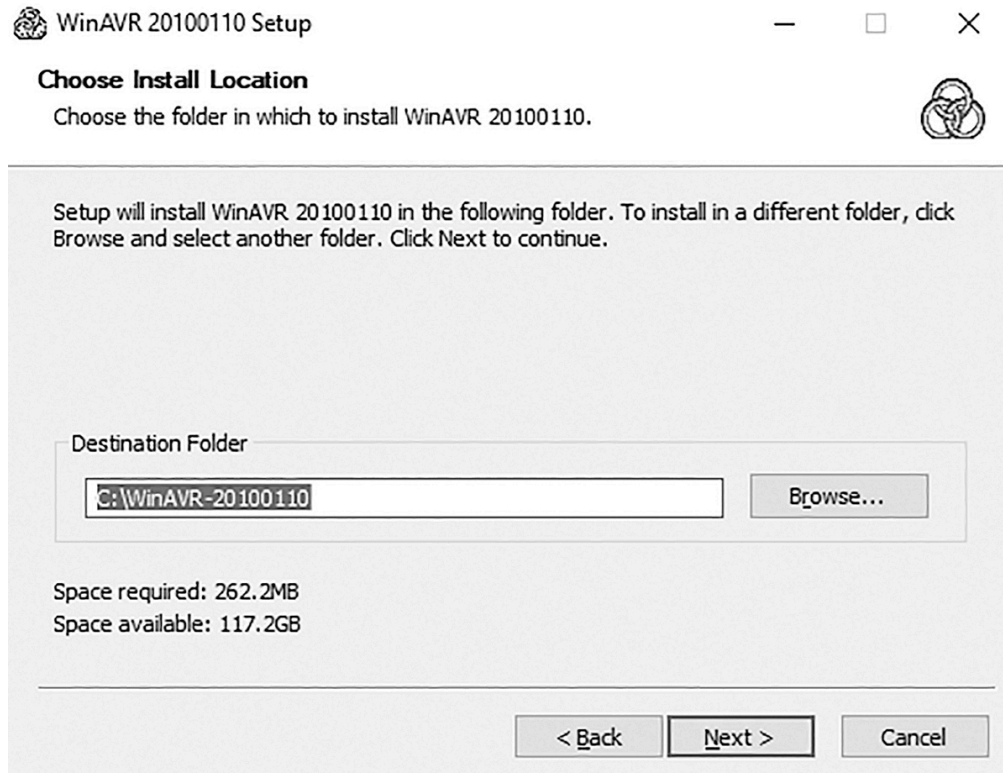

Figure 1-12: *Choosing the file location*
5. The next window should prompt for the folder in which to install the toolchain. You can choose the default by clicking **Next**, as shown in Figure 1-12.